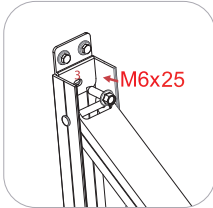
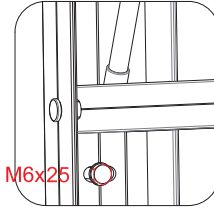

Fig.12
Fig.13
1.Fix the Z type bracket third hole to upper hole of arm (back channel)(Fig.12), and also the middle hole of the arm back channel with car. (Fig.13)